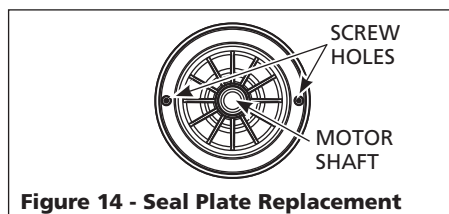

Figure 14 - Seal Plate Replacement
2. Carefully slip seal plate over shaft so as not to disturb seal position in seal plate. The seal plate must be orientated during assembly so that the two holes are on a horizontal line across the motor shaft (Figure 14). This placement should be done to ensure proper draining and priming.